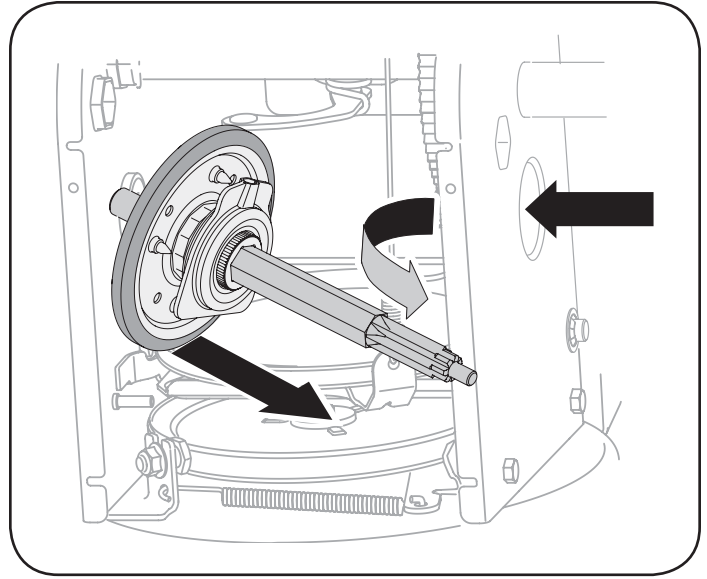

Figure 32
7. Carefully position the hex shaft downward and to the left before carefully sliding the friction wheel assembly off the shaft. See Figure 32.